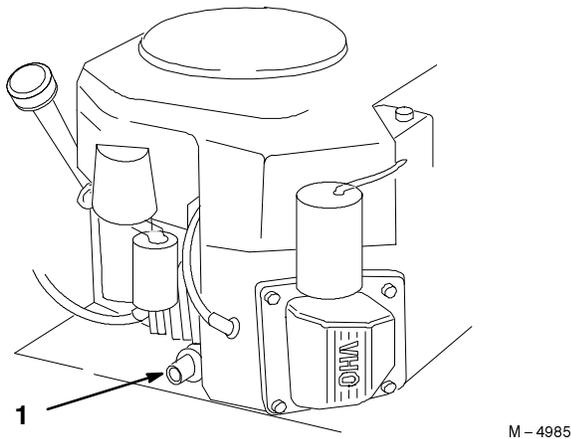

Figure 21
4. Place a pan below the oil drain. Open the drain by turning counterclockwise, 1/8 turn and pull out (Fig. 21).